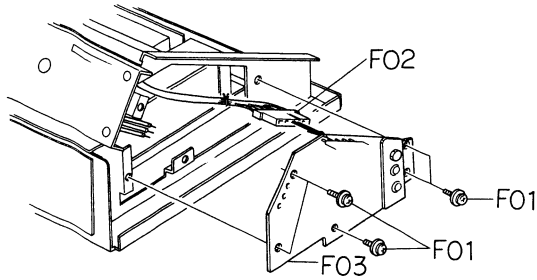

Fig. 3.10
Refer to Fig. 3.10. Remove cabinet ass'y referring to item 3.1. Remove F01 (five places) and F02 (connector), then F03 (power supply P.C.B. ass'y).